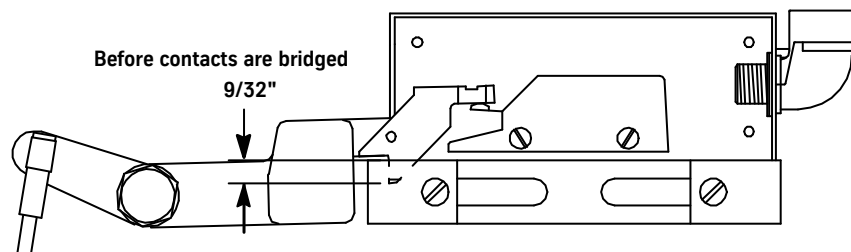

Figure 17 - Interlock Hook Engagement
8. While actuating the rollers and the interlock hook, verify that there is a 9/32" hook engagement before the contacts are bridged. See Figure 17.